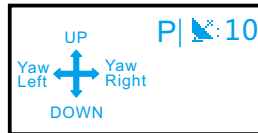

Figure 10-3: Normal
② In the upper right corner,it displays the current mode and GNSS signal of the drone(Refer To Figure 10-3).
③ The connection status between the remote controller and the drone is displayed in the bottom right corner.
- If there is no display in the bottom right corner(See Figure 10-3),it indicates that everything is normal and you can operate the drone.